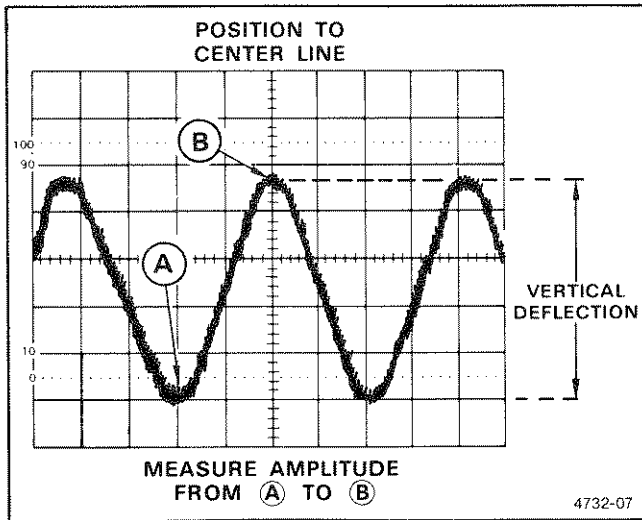

Figure 2-12. Peak-to-peak waveform voltage.
6. Vertically position the display so that the negative peak of the waveform coincides with one of the horizontal graticule lines (see Figure 2-12, Point A).
7. Horizontally position the display so that one of the positive peaks coincides with the center vertical graticule line (see Figure 2-12, Point B).
8. Measure the vertical deflection from peak-to-peak (see Figure 2-12, Point A to Point B).
**EXAMPLE:** The measured peak-to-peak vertical deflection is 4.6 divisions (see Figure 2-12) with a VOLTS/DIV switch setting of 5 V (at 10X PROBE indicator), using a 10X probe.